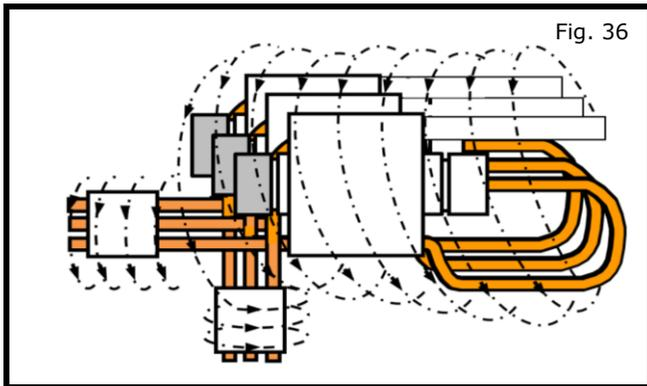

Fig. 36
- a) Make sure the finished wrap looks similar to Fig. 36.